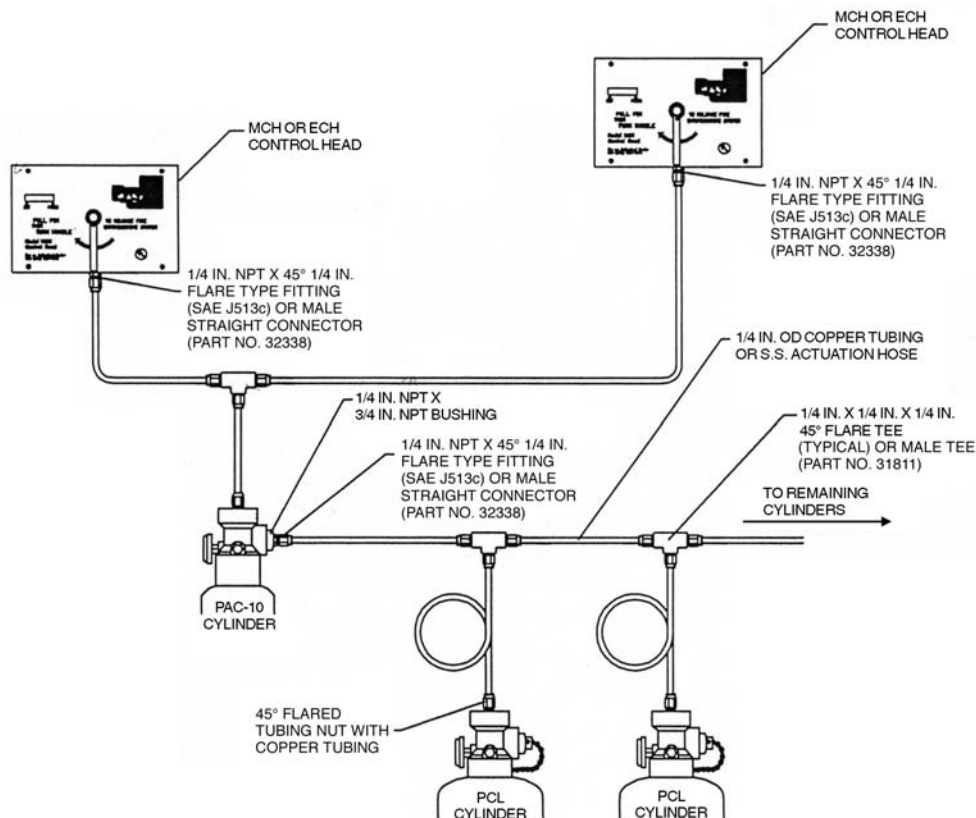

Figure 4-5a. Multiple Cylinder Actuation Using Two Control Heads.
- If the system design requires the use of two control heads for multiple cylinder actuation, a maximum of 25 ft. (7.6 m) of tubing is allowed between the two control heads and the PAC-10 cylinder. See **Figure 4-5a**. If a PAC-10 cylinder is not utilized, there is a maximum of 25 ft. (7.6 m) of tubing for the two control heads and up to 4 cylinders or a maximum of 18 ft. (5.4 m) of tubing for the two control heads and 5 cylinders.